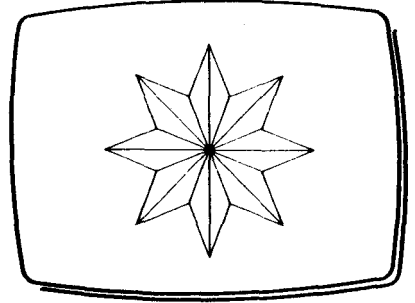

Fig 4
- 11 Move XY to centre the cursor frame, then press and release T to complete the symmetrical figure (Fig 4).